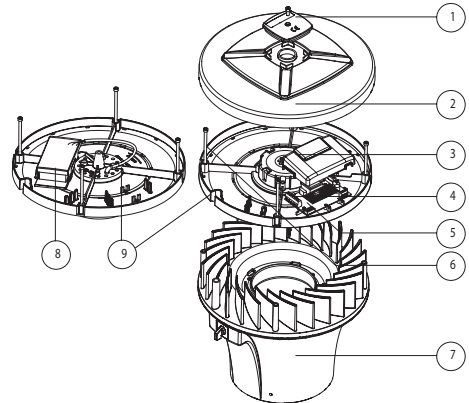

fig. 4
- 1 Unscrew the M5 hex bolt (fig. 4 pos. 1) and remove the air cap and cover from the fan.
- 2 Replace the cover and the air cap and retighten the M5 hex bolt (fig. 4 pos. 1).